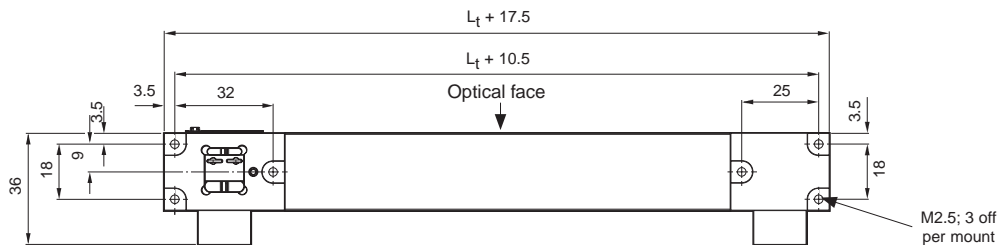

Figure 2: fixing holes for mirror of total length L_t ($L_t \leq 350$); all dimensions in mm
- The motion stage must provide fixing holes to accept the mirror mounts. These should be machined according to Figure 2 below